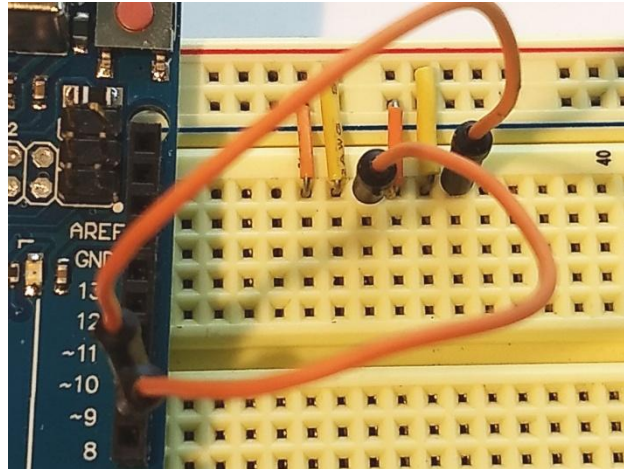

Figure 11. Yellow and orange jump wires.
2. Insert two short yellow jump wires, two short orange jump wires, and two long red jump wires into the XBoard, as shown in Figure 11. The short yellow jump wires should connect holes J31 and J34 to power. The short orange jump wires should connect holes J30 and J33 to ground. The long flexible jump wires should connect port 9 to hole J32, and port 10 to J35.
- **Jump wires:** All jump wires should be positioned as shown in Figure 11.